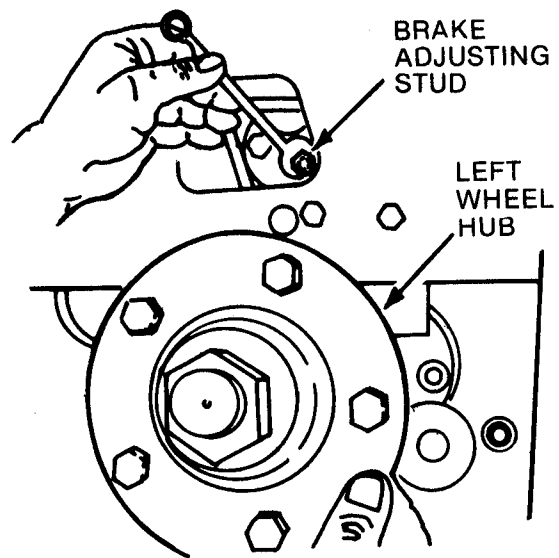

FIG. 4.29-BRAKE PUCKER ADJUSTMENT
3. Tighten nut no. 1 Fig. 4.29 to eliminate clearance between brake pucks and disc then back off one-half turn. This provides approximately .020" running clearance for brake disc.